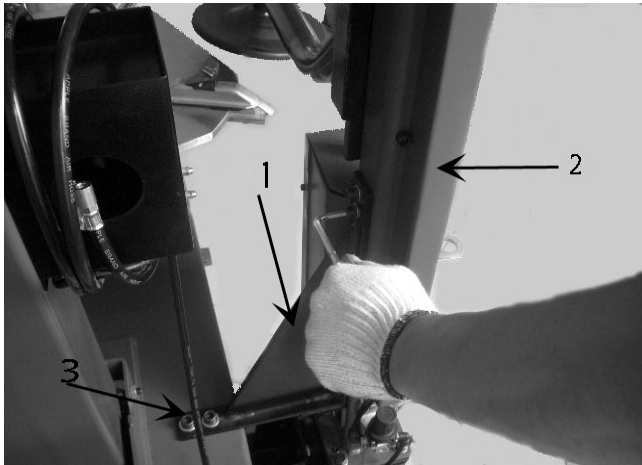

FIG 32
6.1.5 Use the fix supporting bracket (fig32) to connect the body bracket and the body and insert the screw to fix.